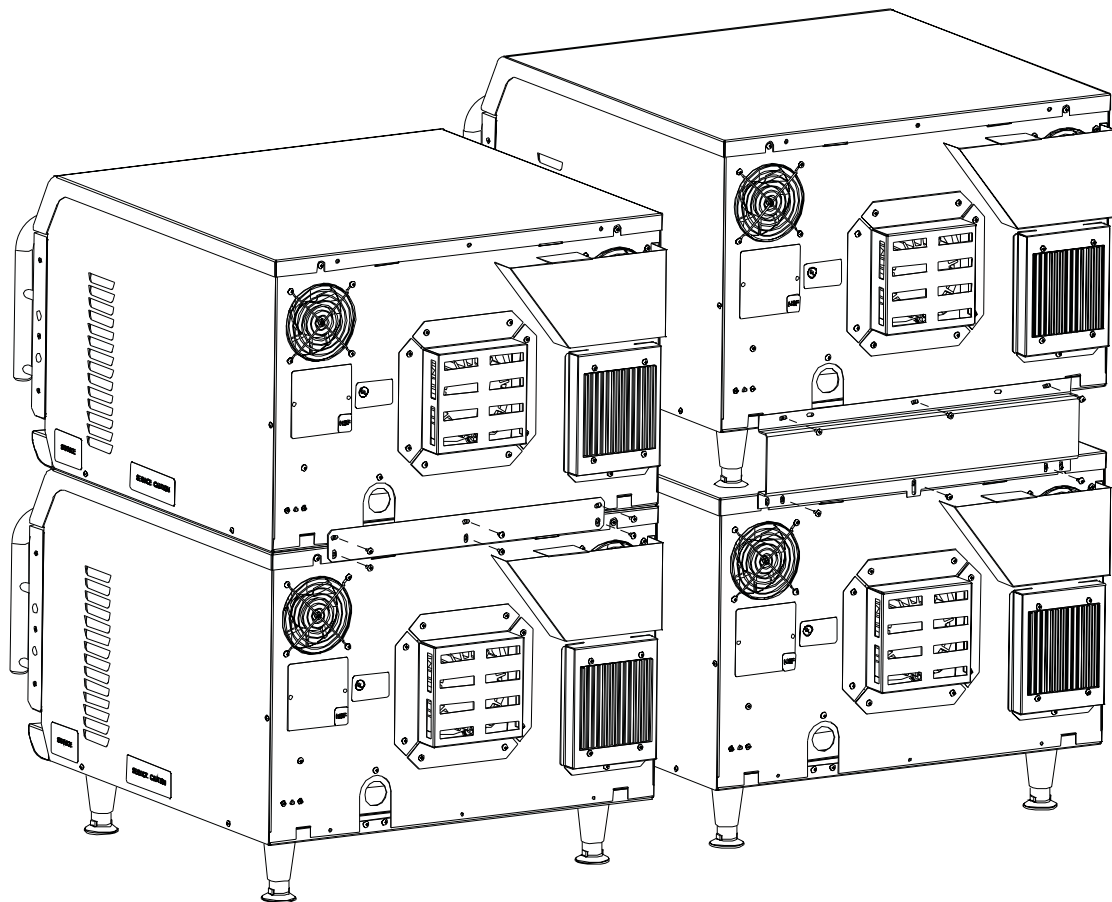

FIGURE 3: Stacked HHB 2 Ovens (Two Configurations)
4. Attach the stacking bracket to the back of the bottom oven using the existing oven screws as shown in Figure 3.
5. Remove the screws from the top oven, as shown in Figure 3.